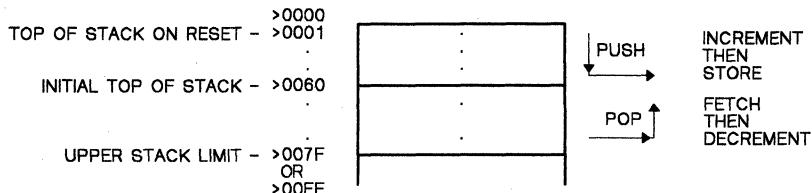

Figure 3-2. Example of Stack Initialization in the Register File
The **Stack Pointer** (SP) is an 8-bit CPU register that points to the top of the stack. The stack is physically located in the on-chip RAM, or RF. When the stack is used, the SP points to the last or top entry on the stack. During reset, the SP is loaded with >01. The SP is loaded from Register B (R1) via the LDSP instruction and initialized to any other value by executing a stack initialization program such as the one illustrated in Figure 3-2. This feature allows the stack to be located anywhere in the Register File. The SP is loaded into Register B via the STSP command. The SP is automatically incremented when data is pushed onto the stack and automatically decremented after data is popped from the stack.